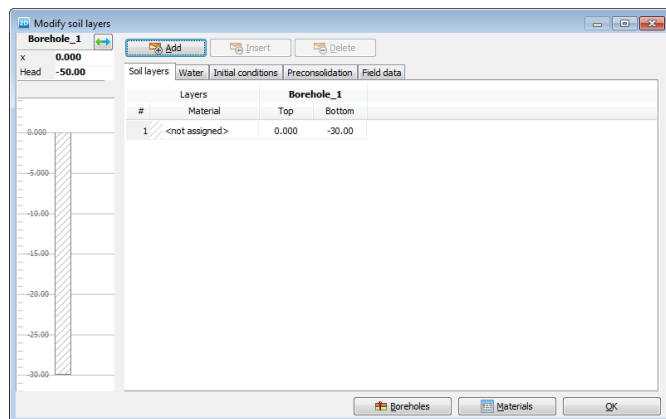

Figure 8.2 Soil layer
- Create a single soil layer with top level at 0.0 m and bottom level at -30.0m as shown in Figure 8.2.